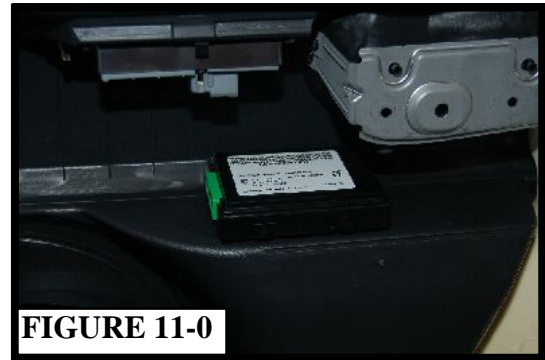

FIGURE 11-0
- (c). Peel backing tape from module box and mount securely. (FIGURE 11-0)